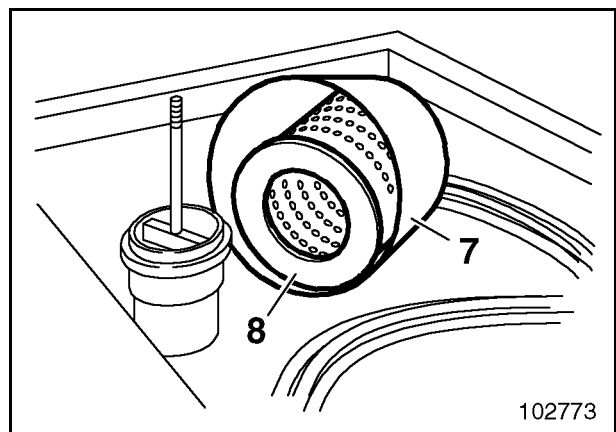

Fig. 3-135:
- Withdraw cover (7, Fig. 3-135:) and filter element (8).